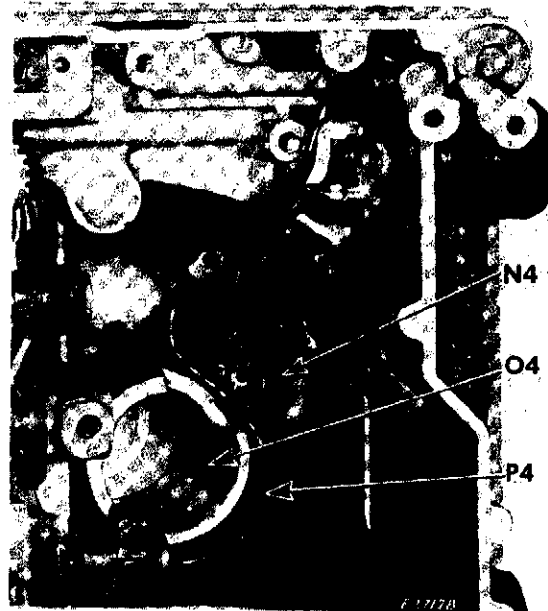

Fig. 301. Location of Wires around Motor
1. Make sure that wire P4, Fig. 301 is correctly located around and under cylindrical tube O4; then up behind three-pin terminal N4, as shown in Fig. 301.
NOTE: Make certain that light leads are above the three-pin terminal and around the cylindrical tube, as shown in **Fig. 301, page 145** and instructed in Step #1 under "REPLACEMENT" on **page 145**.